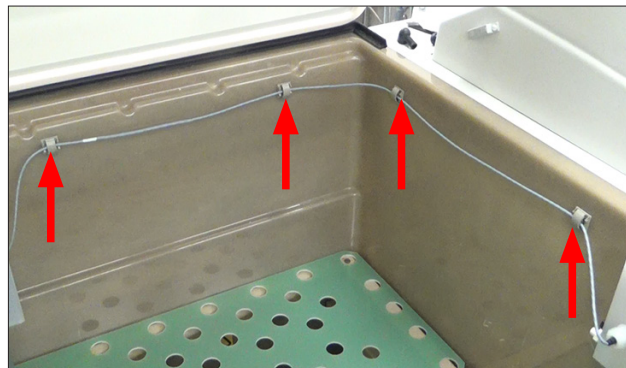

Figure 6.9f: Sensor cable installed in clips.
- Make sure the sensor cable is installed in the clips on the chamber wall as shown in Figure 6.9f.